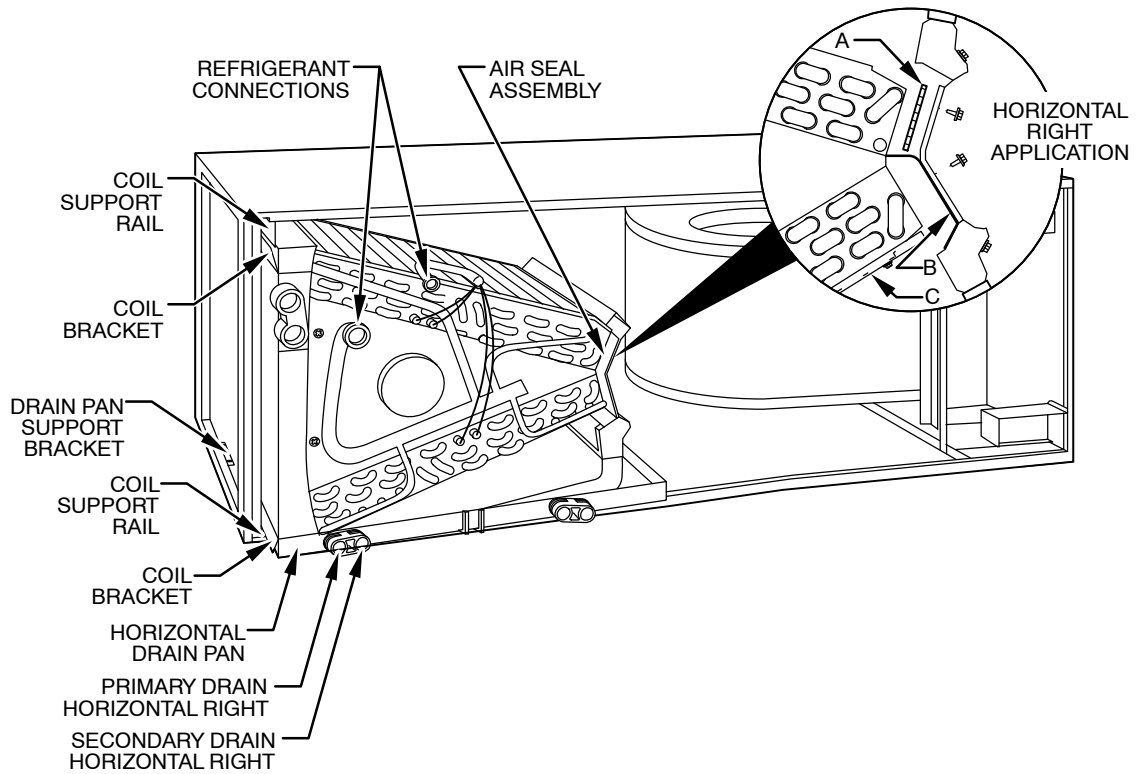

Fig. 6 - A-Coil in Horizontal-Right Application (FE4A only)
1. Remove blower and coil access panels. (See Fig. 6.)
- b. Remove air splitter (B) from coil seal assembly by removing 3 screws. (See Fig. 6 inset)
- c. Remove filler plate (A) and install air splitter (B) in place of filler plate.
- d. Install filler plate (A) as shown in horizontal right application.
- e. Remove condensate troughs (C) and install on opposite tube sheets.